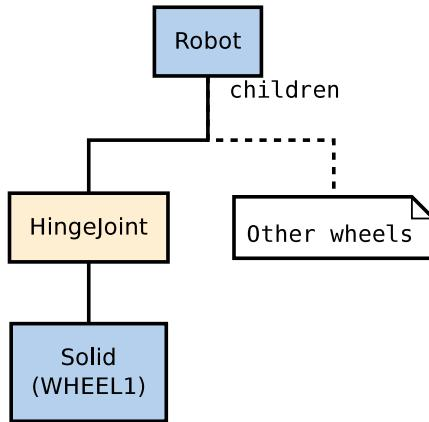

Figure 7.15: High level representation of the 4 wheels robot
In our case, the body box is obviously the better choice. The figure 7.15 depicts the solid nodes hierarchy of the robot.
*At the end of the scene tree, add a Robot node having four HingeJoints having a Solid child. Please refer to figure 7.15.*